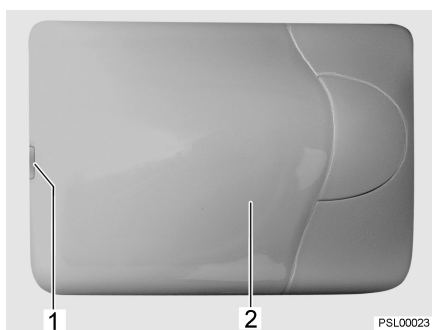

Fig. 89 Room lamp
- Use a suitable tool (e.g. a screwdriver) to carefully lever out the cover (Fig. 89,2) at the notch (Fig. 89,1) and remove it.